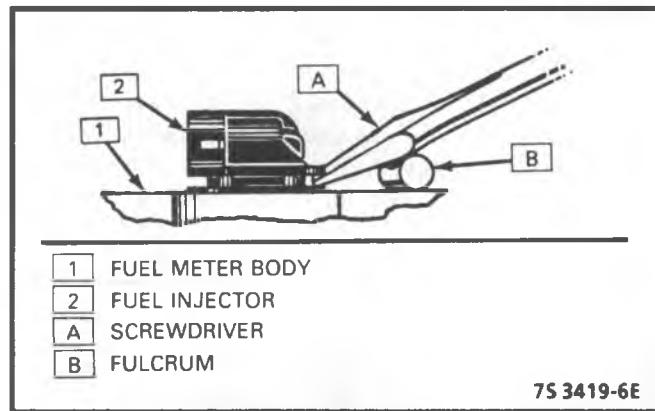

Figure 4-29 - Removing Fuel Injector - TBI 700
5. Injector, by placing screwdriver blade under ridge opposite connector end and carefully prying it out (Figure 4-29).